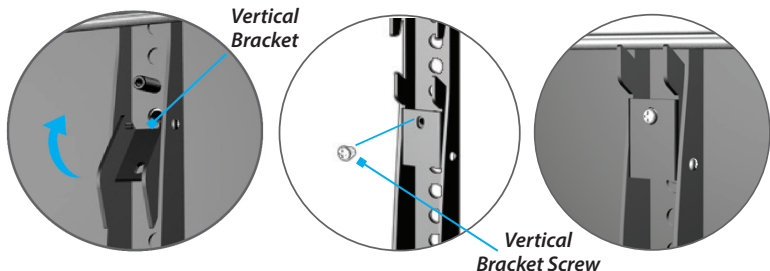

Figure 9
2. Lock the **Vertical Brackets** in place by folding up the **Latch** on the back of each **Vertical Bracket** and screw in the **Vertical Bracket Screw** (x 2) using a **Phillips Head Screwdriver**. (Figure 9)